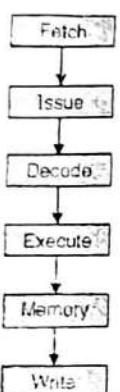

Fig. 11.10.6 : Six stage pipeline of ARM10 processor
- The pipeline of ARM10 processor has six stages fetch, issue, decode and read register, execute shift and ALU, memory access and multiply, write register as shown in Fig. 11.10.6.